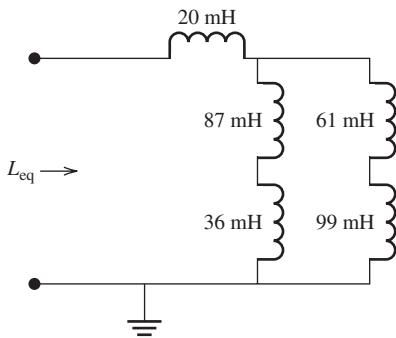

FIGURE P4.48 Circuit for Problem 4.48.
- 4.48** (A)* (Application) oil pipeline, running from Mosul, Iraq to Beirut, Lebanon is being restored so it can be placed back into service. A new pump is needed to replace a broken one. A large electric motor is needed to drive this pump. The motor has the equivalent circuit as shown in Figure P4.48. Solve for the equivalent inductance.